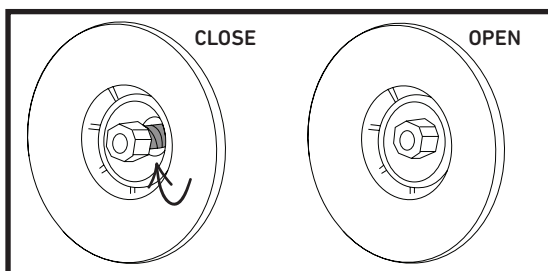

Fig. 16
17. Make sure the pump valve is in the position **CLOSE** (Fig. 16).